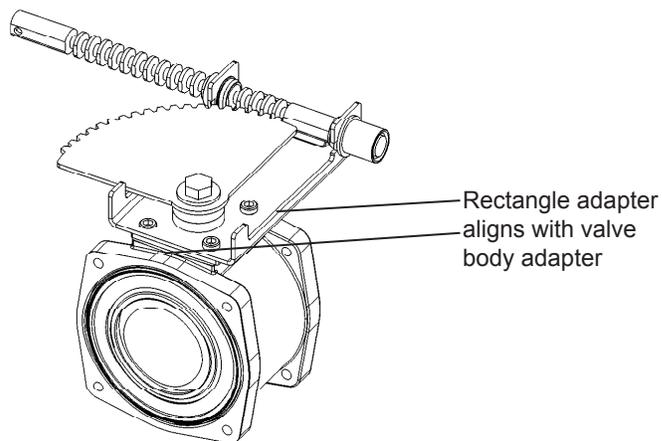

Figure 9
3. Rotate the actuator assembly on valve body until the rectangular actuator adapter aligns with the square-mounting surface on the valve body. Ensure the rack is in the proper position when the ball is open, as shown in Figure 9.